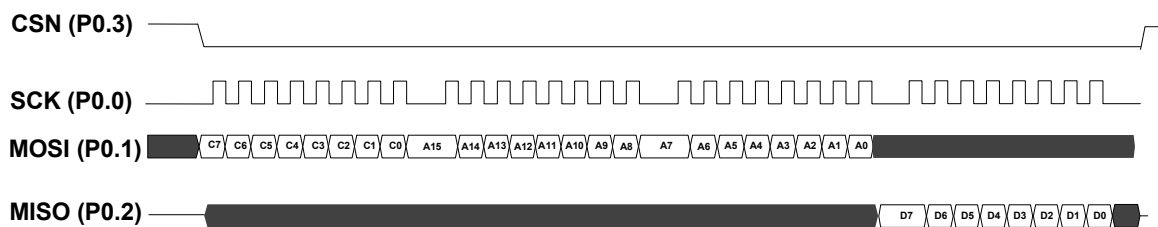

Figure 72. SPI flash read operation, shown with 1 databyte
2. The READ command is transmitted through the MOSI line followed by the two byte address to the byte to be read as shown in Figure 72. on page 148.